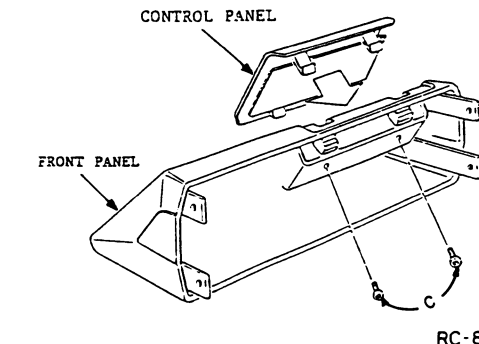

Figure 3
4. Remove the screws securing the CONTROL PANEL as shown in figure 3.
7. Install and secure the CONTROL PANEL to the FRONT PANEL with screws at location C as shown in figure 3.